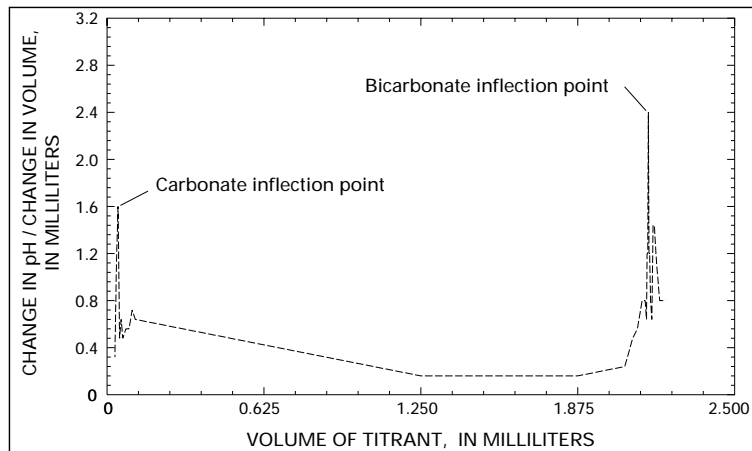

Figure 6.6-2. Example of an inflection point titration using a buret.
**Use either the buret or digital titrator.** To determine the inflection point, you can either construct a titration curve by plotting the change in pH divided by the change in titrant volume against the incremental volumes of the titrant added to the sample, or tabulate a titration. Figures 6.6-2 and 6.6-3 represent the titration of a sample that has both a carbonate and a bicarbonate inflection point, whereas tables 6.6-4 and 6.6-5 represent a titration that resulted only in a bicarbonate inflection point.